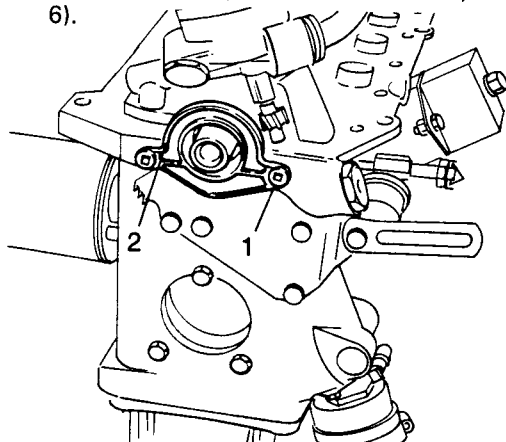

Fig B4.54
- (3) Refer to Fig B4.54. Remove the two counter sunk head screws (1) and washers securing the seal housing (2) to the crankcase and detach the housing.
- (4) Detach the reservoir seal from its groove in the housing.